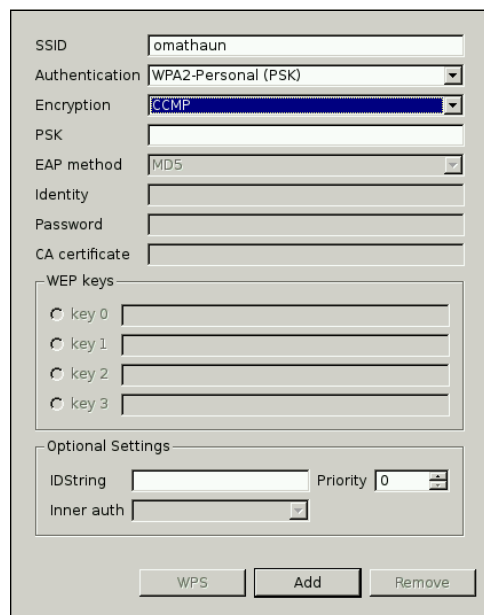

FIGURE 7-26: The `wpa_gui` main window
1. Run the supplicant software by launching Wi-Fi Config from the Raspbian desktop. The `wpa_gui` main window is shown in Figure 7-26.